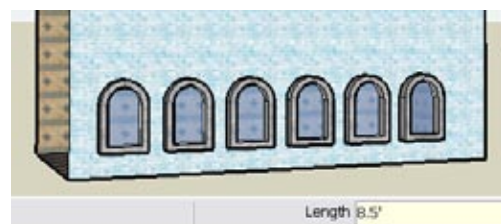

Figure 1-8
- Try $8' 6''$ (Architectural format for 8 feet and 6 inches). You can enter this dimension most easily as $8.5'$. This still looks too crowded (Figure 1-8).